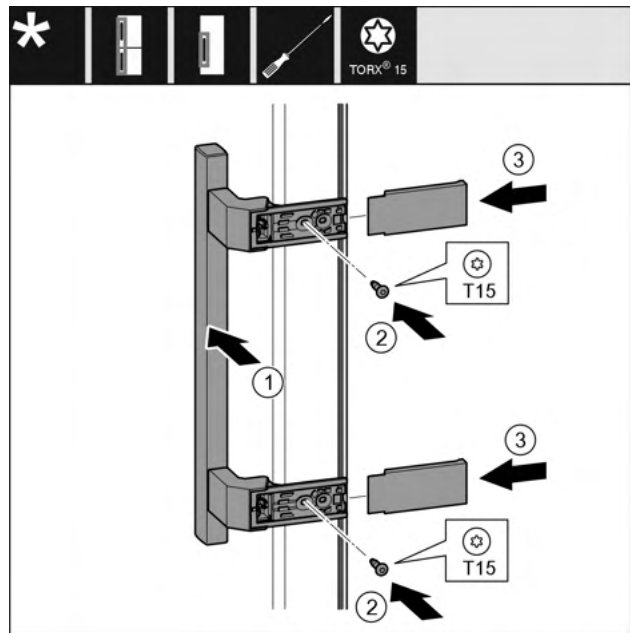

Fig. 39
- ▶ Attach the handle on Fig. 39 (1) the opposite side.
- ▶ Tighten the screws Fig. 39 (2) with the screwdriver.
- ▶ Attach the covers Fig. 39 (3) on the sides and slide them on.